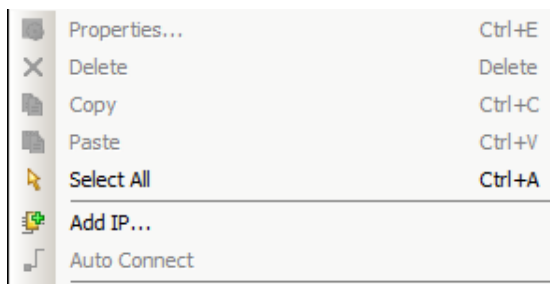

Figure 23: Add IP Popup Menu
1. Right-click the diagram and, from the popup menu, (Figure 23), select **Add IP** or click the **Add IP** button on the Diagram toolbar to open the IP Catalog window.